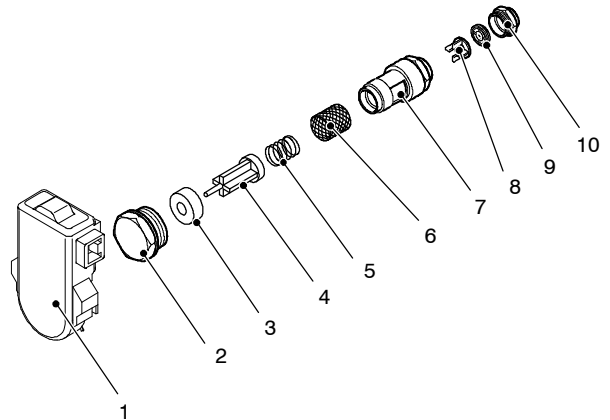

Fig. 58
When the flow rate through the d.h.w. circuit reaches about 2,5 litres/min', the float 4 (Fig. 58) is drawn towards the right.
14.2 Nomenclature and location of parts (Fig. 58)
- 4 Unscrew the plug 2 (Fig. 58) and extract the flow switch group.
- 5 To remove the filter from the flow switch group separate the body 7 from the plug 2 (Fig. 58) by unscrewing it.
Attention: the ring 3 (Fig. 58) has a magnetic polarity and must be correctly coupled with the spindle of the float 4.
- 2 Unscrew the threaded ring 10 (Fig. 58) and remove it from the body 7.